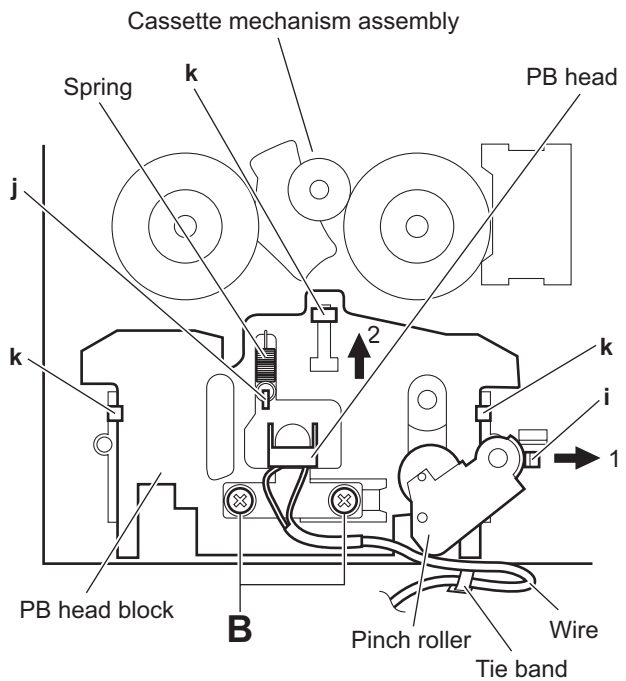

Fig.9
3.3.6 Removing the PB head block (See Fig.9)